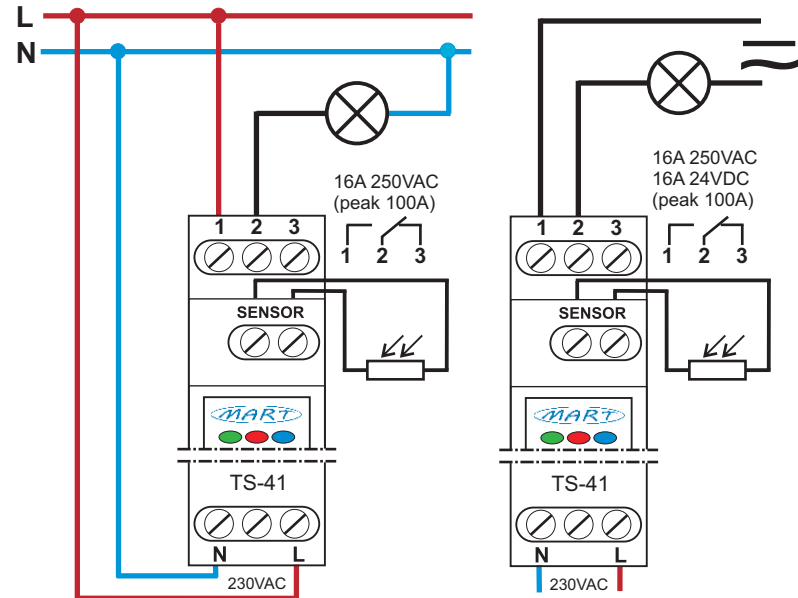

Fig. 2. : Connection diagrams for the TS-41-3 TWILIGHT SWITCH automatic device.
3. connect the wires in accordance with the diagram (fig. 2)